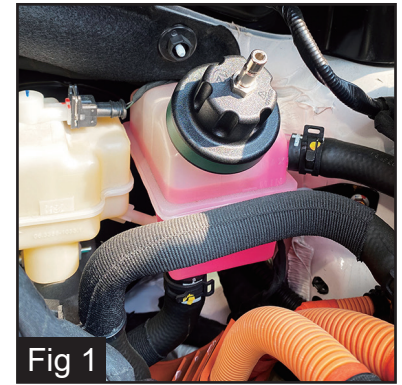

Fig 1
- 4 Connect the coolant refill hose to a suitable adapter, and connect the adapter to the filler neck on the recovery tank (Fig 1).